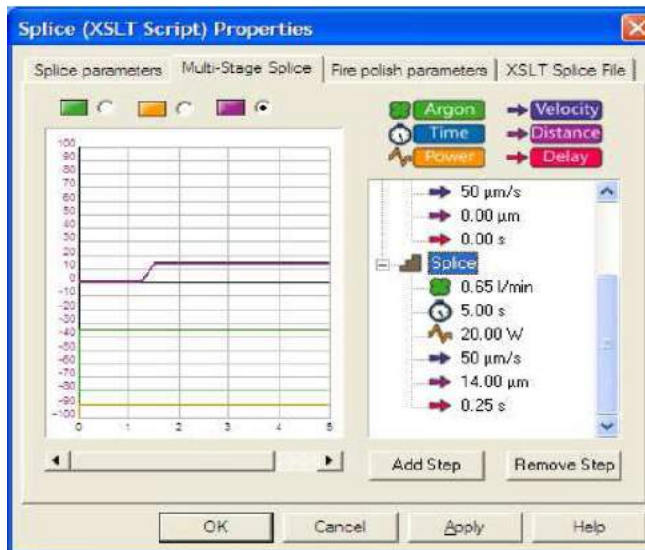

Figure 33 Sample Stage 2
- Any number of splice stages may be added. Click Add Step to add a second stage as shown in Figure 33. Add as many heating, cooling, and pushing stages as are required.